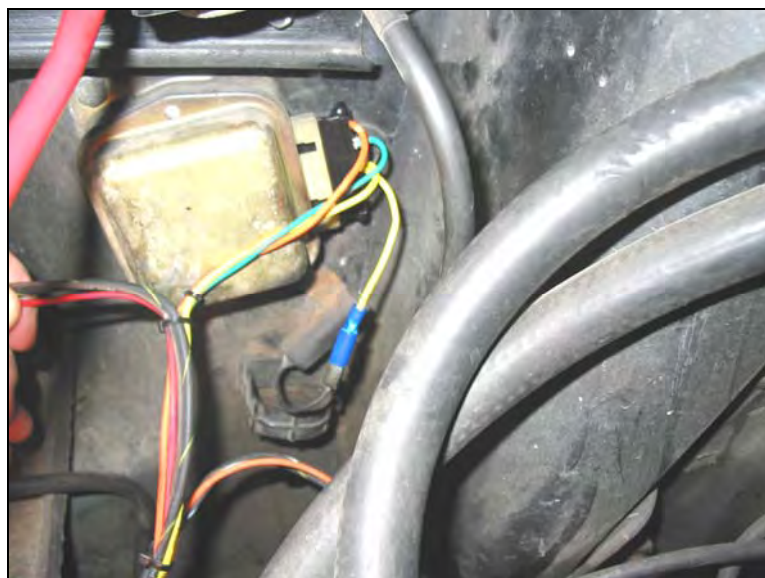

Figure 7-2 Regulator Connections
- 7.1.2** Connect HEADLIGHT SECTION wire #915 (BLK/YLW) to the Alternator Output post marked "Bat" or "B+". **See Figure 7-2**
- 7.1.5 Connect the yellow wire with the preinstalled female bullet connector to the Noise Capacitor. **See Figure 7-2**